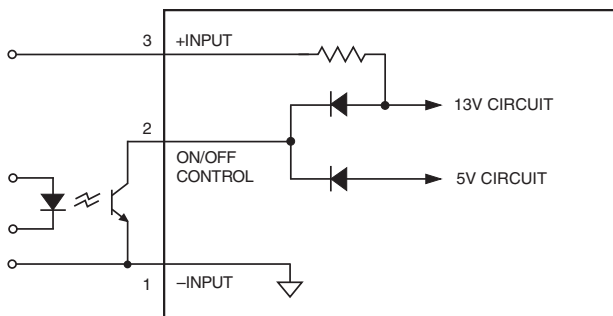

Figure 8. Driving the Positive Polarity On/Off Control Pin
**"P" suffix:** Standard models are equipped with Positive-polarity and these devices are enabled when pin 2 is left open (or is pulled high, applying +3.5V to +13 with respect to -Input, pin 1) as per Figure 8. Positive-polarity devices are disabled when pin 2 is pulled low (0 to 0.8V with respect to -Input).